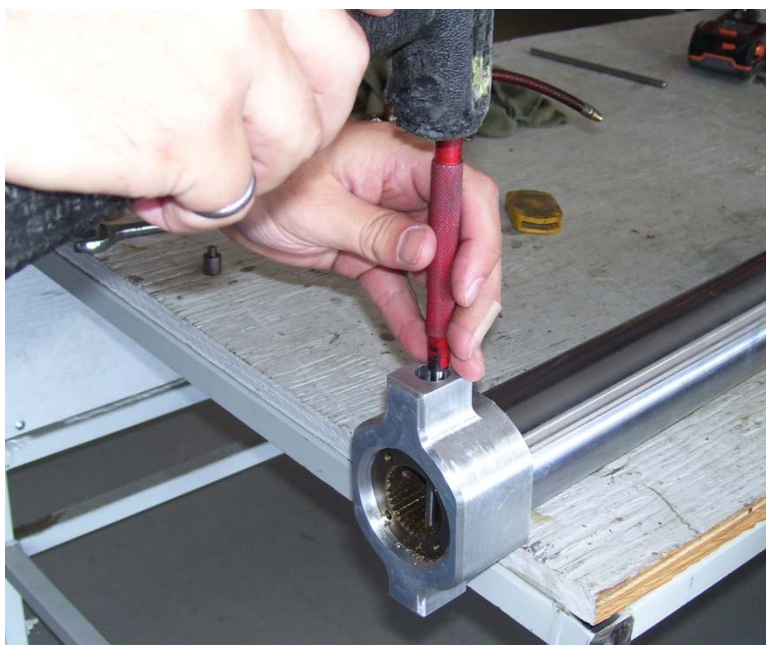

Figure 5-5: Removing the 1/4 Inch Alignment Pin
3. Remove the 5/8 inch – 18 screw and the 1/4 inch alignment pin. Refer to **Figure 5-5**.